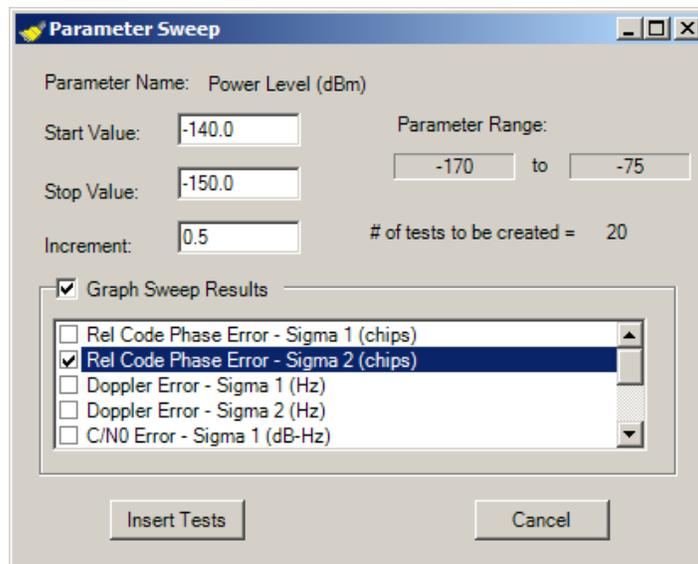

Figure 3-42: Parameter Sweep Window
2. Click the **Parameter Sweep** button  on the toolbar or select **Edit>Parameter Sweep**. The *Parameter Sweep* window shown in Figure 3-42 displays.